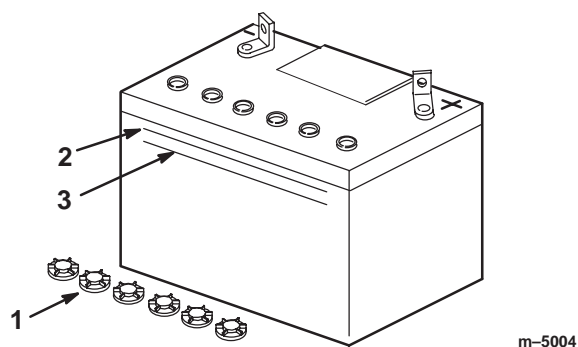

Figure 7
3. Remove the vent caps from the battery (Fig. 7).
4. Slowly pour electrolyte into each battery cell until the level is up to the **upper** line (Fig. 7) on the battery case.
5. Wait five to ten minutes after filling the battery cells. Add electrolyte, if necessary, until the electrolyte level is up to the **upper** line (Fig. 7) on the battery case.